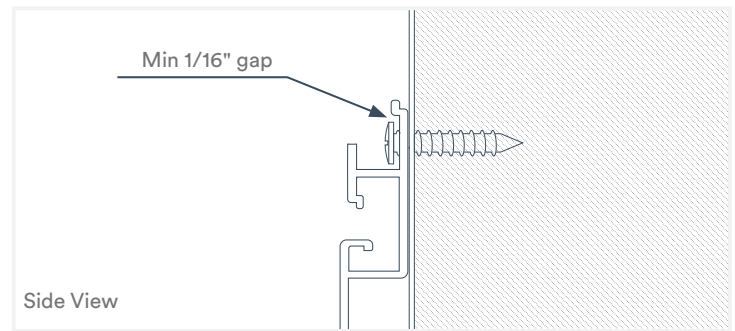

Fig. 2
- Allow a minimum of 1/16" (about the thickness of a dime) between the back of the fastener head and the screw flange (Fig. 2)